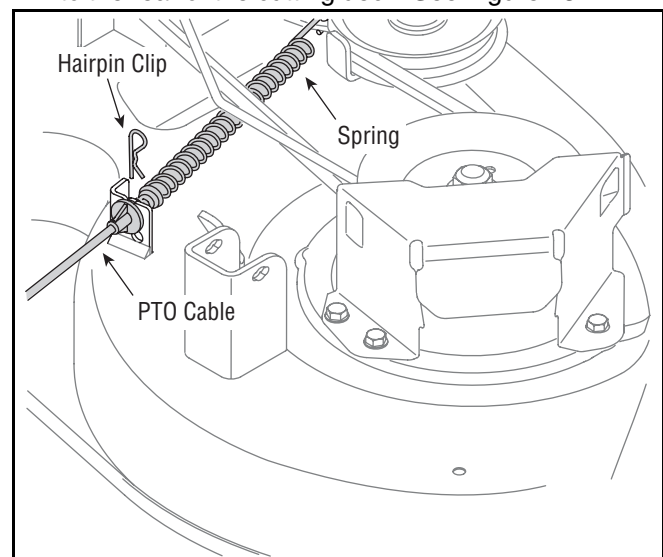

Figure 23
3. Remove the hairpin clip that secures the PTO cable to the rear of the cutting deck. See Figure 23.